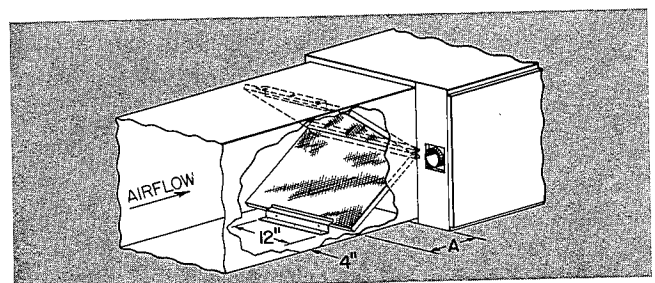
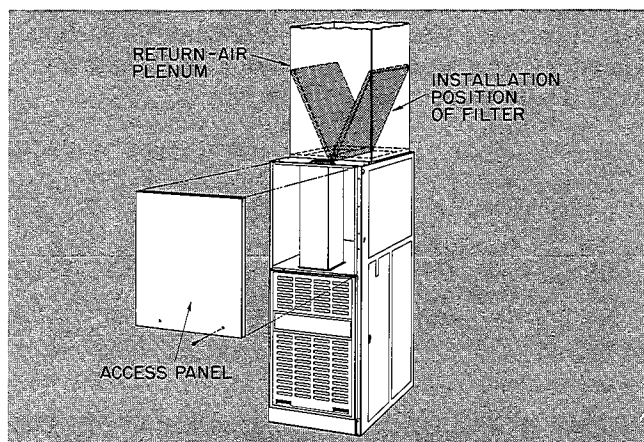

Fig. 10 — Horizontal Filter Arrangement (See Table 5.)
Fig. 11 — Downflow Filter Arrangement
- c. Install accessory filter retainer kit before connecting return air duct to furnace. See Fig. 10 and Table 5. See note below.
return air duct has been connected to furnace, install filters in a V-formation inside return air plenum. See Fig. 10 and Table 5 for horizontal applications. See Fig. 11 for downflow applications.
Furnace Size	Dim. A (Fig. 10)